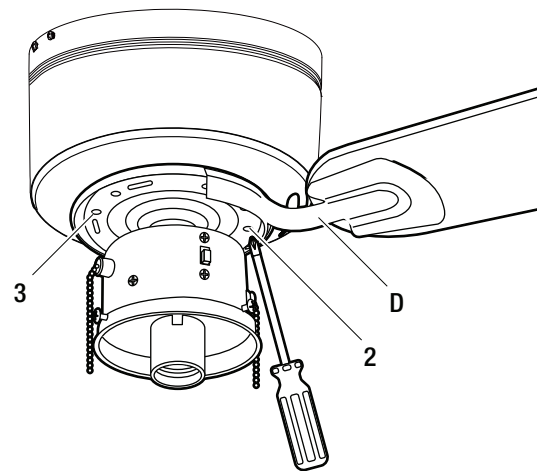

Figure 11
- Position the blade holder (D) under the motor such that the alignment post on the blade holder fits into the slot (3) in the motor (Figure 11).
- Tighten the pre-installed blade holder screws (2).